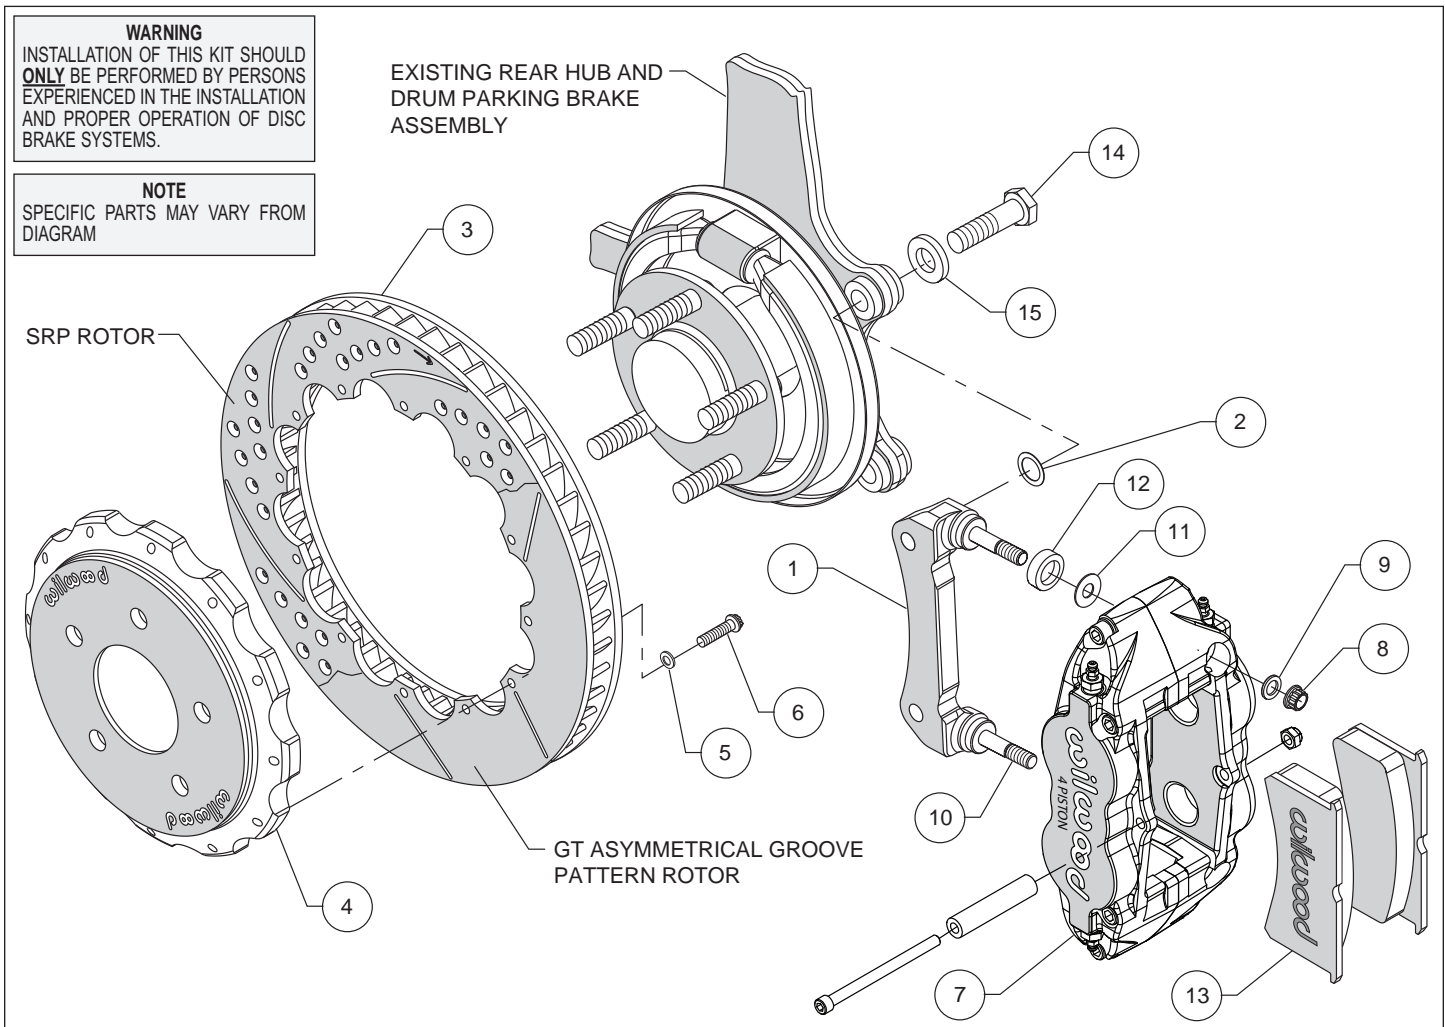
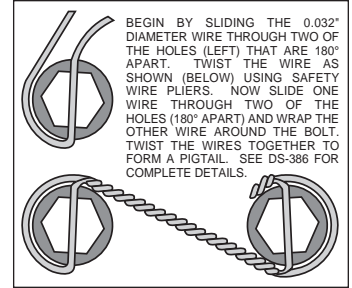

Figure 1. Typical Installation Configuration
Figure 3. Safety Wire Diagram
**Assembly Instructions** (numbers in parenthesis refer to the parts list and Figure 1 on the preceding pages):
- The caliper mount bracket (1) should initially be installed with clean, dry threads on the mounting bolts. Orient the bracket, as shown in Figure 1 and install using bolts (14) and washers (15). Initially place one .029" thick shim (2) on each bolt between the bracket and upright, Figure 1. Temporarily tighten the mounting bolts. **NOTE:** *The bracket must fit squarely against the mount bosses on the upright.* Inspect for interference from casting irregularities, machining ridges, burrs, etc. Later, after the caliper alignment has been checked, the mount bolts will be secured using red *Loctite*® 271.
- Orient the rotor (3) and the hat (4) as shown in Figure 1 and Photo 1. Attach rotor to hat using bolts (6) and washers (5). Using an alternating sequence, apply red *Loctite*® 271 to the threads, and torque to 155 **in-lbs**. For an added measure of security, the bolts may be safety wired using standard 0.032 inch diameter stainless steel safety wire as shown in Figure 3. Refer to Wilwood's data sheet DS-386 (available at [www.wilwood.com/Pdf/DataSheets/ds386.pdf](http://www.wilwood.com/Pdf/DataSheets/ds386.pdf)) for complete safety wire installation instructions.
- Lubricate the caliper mounting studs (10) with lightweight oil. Initially place one .035" thick shim (11), and spacer (12) on each stud as shown in Figure 1 and Photo 2. Mount the caliper (7) onto the bracket (1) using lock nuts (8) and washers (9), Figure 1. Temporarily tighten the lock nuts and view the rotor through the top opening of the caliper. The rotor should be centered in the caliper, Photo 3. If not, adjust by adding or subtracting shims (2) between the bracket and the upright. Always use the same amount of shims on each of the two mounting bolts. Once the caliper alignment is correct, remove the bracket mounting bolts (14) one at a time, apply red *Loctite*® 271 to the threads, and torque to 77 ft-lb.